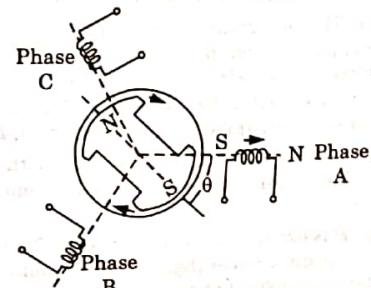

Fig. 3.22.2. An elementary form of brushless DC motor.
- Fig. 3.22.2 shows an elementary form of three-phase stator winding and the permanent-magnet rotor with two poles.